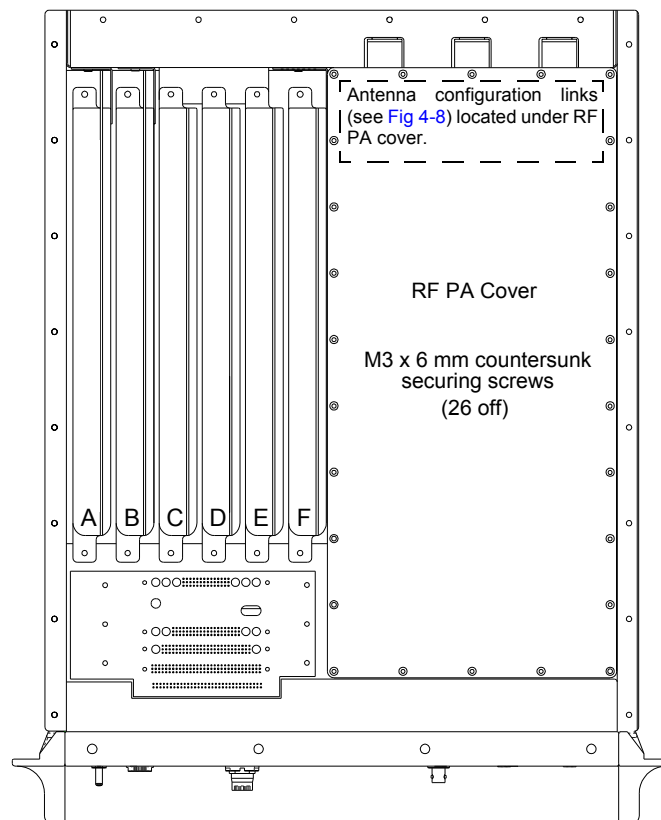
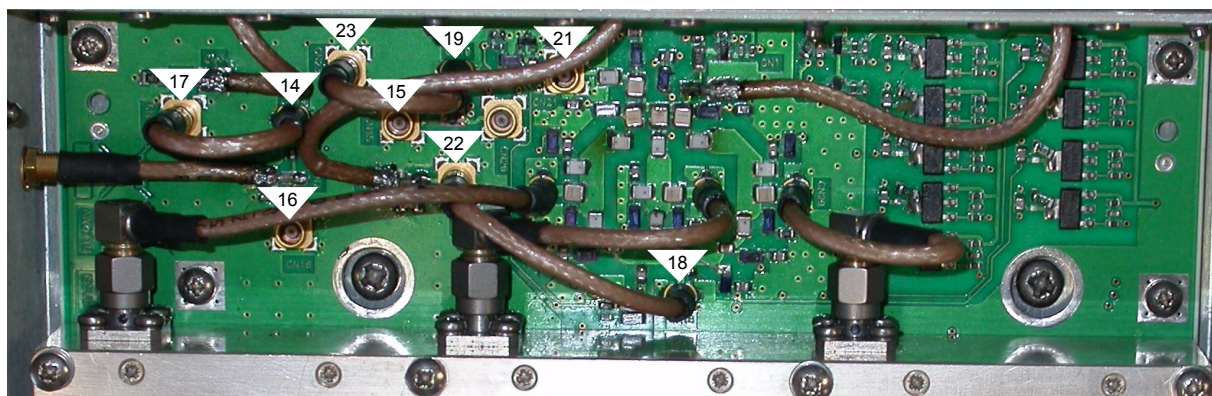

Fig 4-7 RF PA Cover
Fig 4-8 Antenna Configuration Links
- (3) Identify the RF PA cover, shown in Fig 4-7, and using a Torx T10 screwdriver, remove and retain the 26 securing screws (part number 36T46330060). Remove and retain the RF PA cover.
- (4) Identify the antenna configuration links (Fig 4-8) that are located at the rear of the RF PA (see Fig 4-7). Set links, as detailed in Table 4-5, to suit the required configuration.
- (5) Refit the RF PA cover using the screws removed in step (3).
- (6) Refit the top cover using the screws removed in step (2).